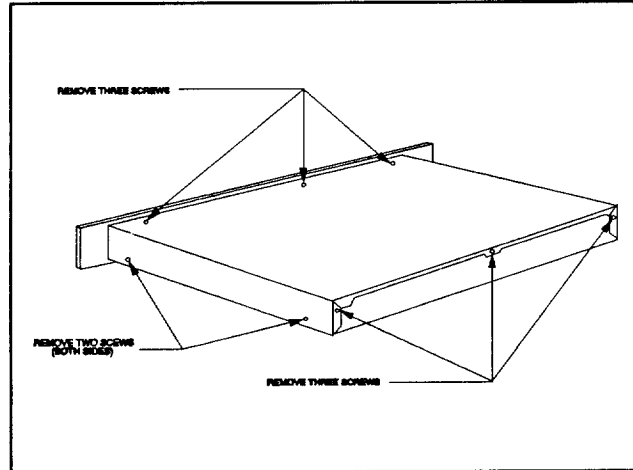

Figure 7 Top Cover Screw Locations
2. Remove the ten screws securing the top cover (see Figure 7).